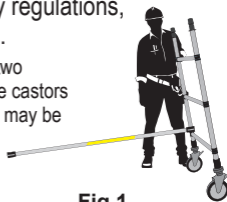

Fig.1
2. Attach at least one horizontal brace (yellow) to the frame upright just above the first rung with the snap hook facing outwards. The frame is now self-supporting – See Fig.1